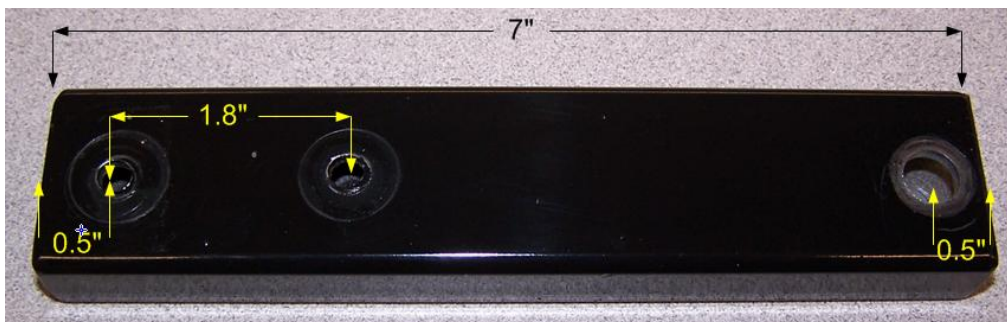
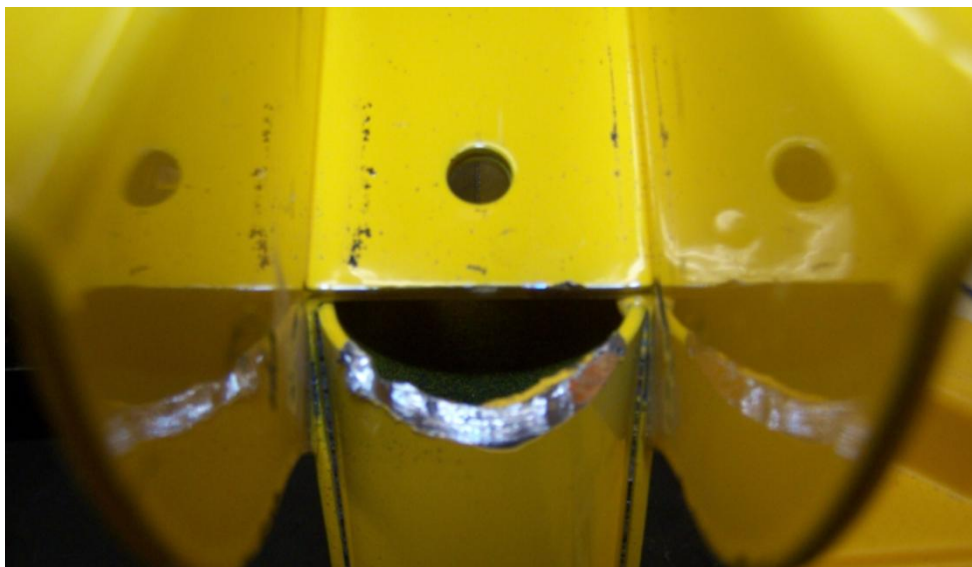

Figure 6: Swing Cylinder Front Mount
Figure 10: Base Arm Filing Location
The swing cylinder front mount needs to be made. This should be done using the same steel tubing (10) as used for the stick and bucket cylinder brackets. The two 1/4" holes in the left of Figure 6 should be drilled so that the bracket will mount to the base of the excavator arm (Figure 14). The hole on the right of the mount is 7/16".
The back of the base arm will need to be filed down flush with the slope of the arm as seen in Figure 10. This will allow for the swing cylinder front mount (Figure 6) to mount flush to the base later in the assembly.